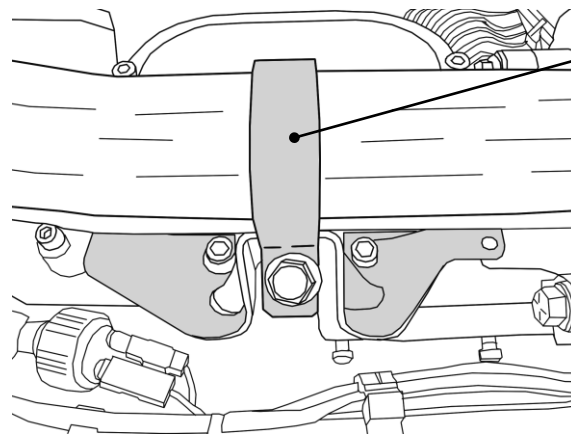

FIGURE 3.
6. Install the front headpipe on the motorcycle using the stock flange nuts to secure it to the exhaust port studs, but **do not tighten** at this time. Loop the headpipe support clamp around the headpipe and stock exhaust mount on the right side engine case see Figure 3, **do not tighten** at this time.